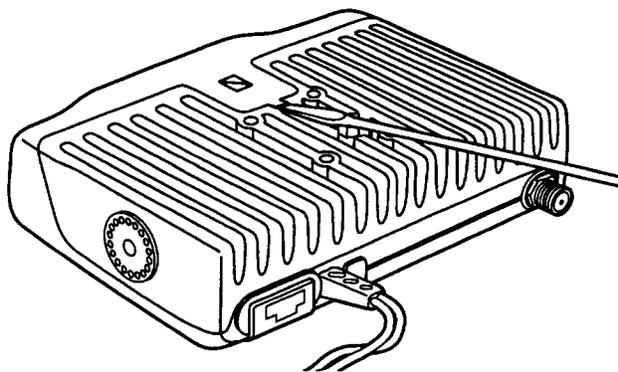

Figure 1-1. Remove Housing
2. Remove the housing cover by sliding a flat bladed screwdriver under the cover latch (located bottom of radio) and gently pry upward until the latch disengages. (Figure 1-1.)